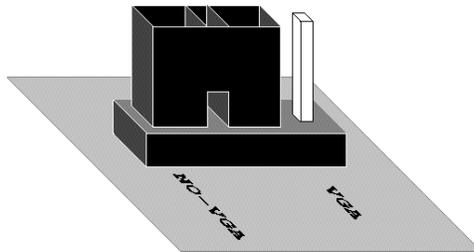

Figure 26: VGA Jumper (VGA Disabled)
3. Slide the jumper down, connecting the center prong and the “NO-VGA” prong that was not in contact before. The Oxygen card is now set to the VGA disabled position (Figure 26).